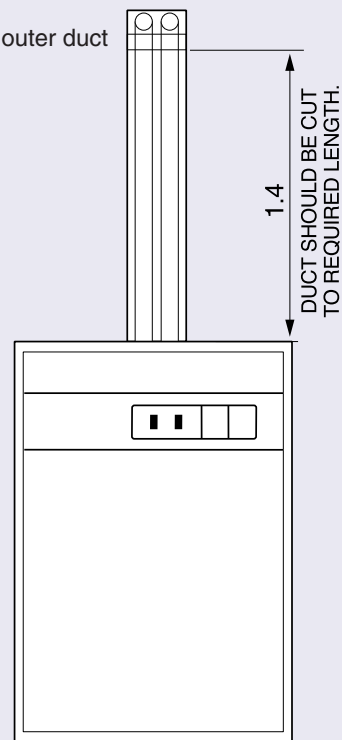

Fig. 17.6
THE PIPE SUPPORTS AND CLIPS MAINTAIN A SPACING OF 63mm BETWEEN THE PIPE CENTRES – SEE FIG. 17.6. THUS INNER PIPE(S) OF STACKED RUNS ARE 63mm OR 126mm SHORTER THAN OTHER PIPE DEPENDING ON THE NEXT CHANGE OF DIRECTION.